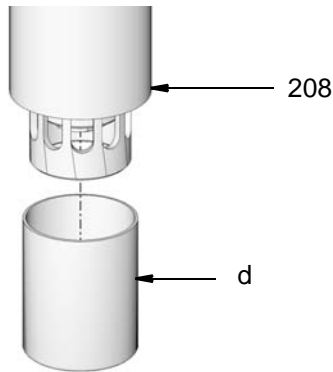

FIG. 6
- Remove protective cap (d) from pump down-tube (208) (FIG. 6). Discard cap. You will not use it again.